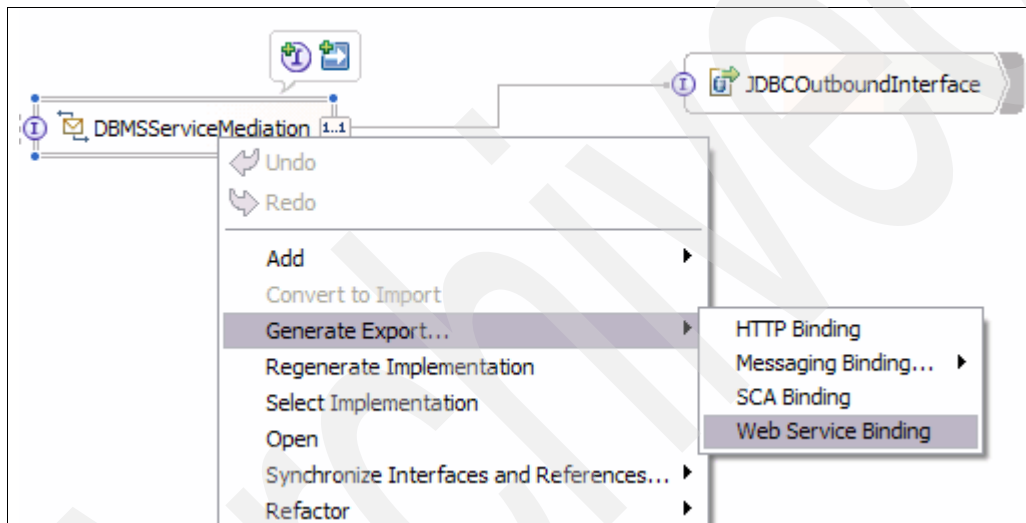

Figure 5-56 Generate an export component with a Web service binding
1. Right-click the mediation flow component, and select **Generate Export**. Then, select **Web Service Binding**. See Figure 5-56.